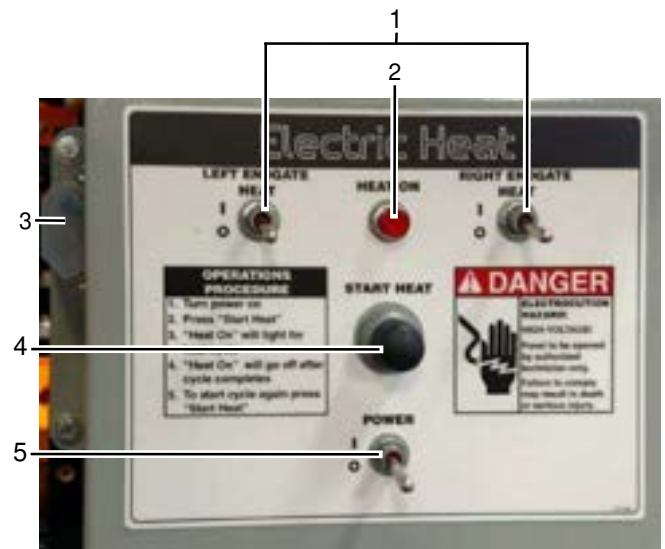

Figure 4-40. Electric Heat Control Box
This control box is where you will select the heating function before you begin to pave. It is easily accessible to the screed operator when a heating cycle is needed. **(Figure 4-40)**.
4. Turn the electric heat control box power ON by flipping the power switch up. **(Figure 4-40)**